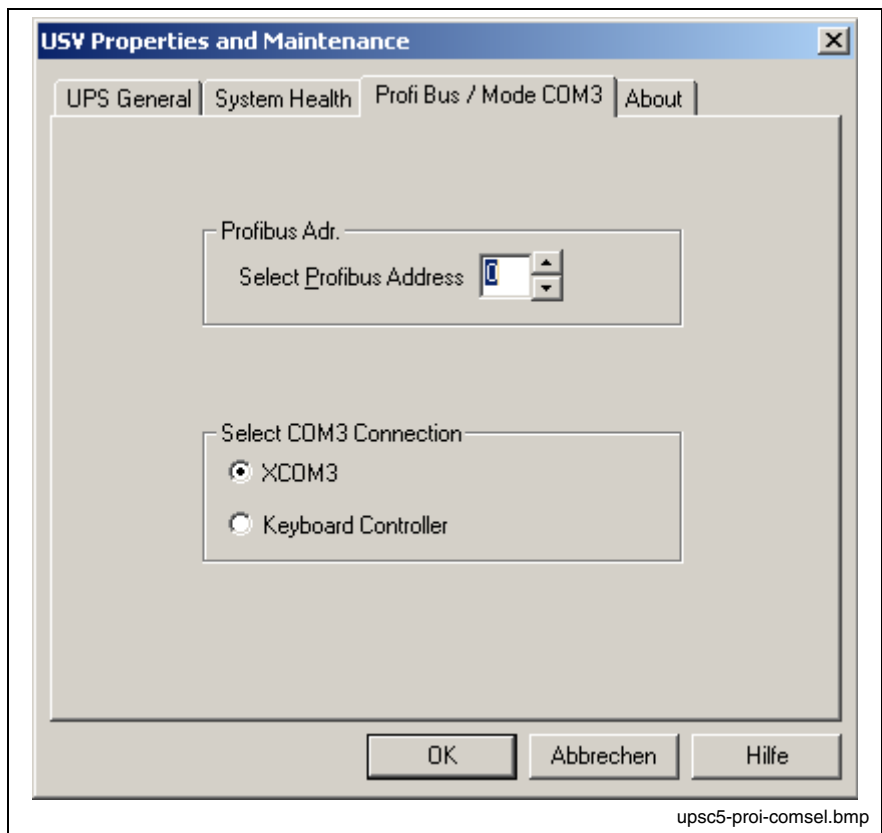

Fig. 9-7: "Profi Bus /Mode COM3" tab
- Fig. 9-7: "Profi Bus /Mode COM3" tab 9-9